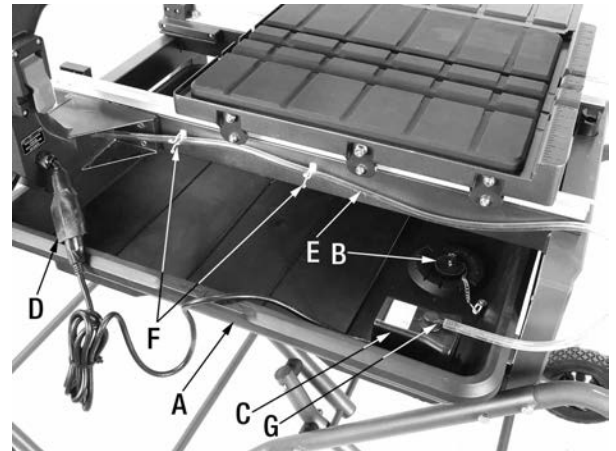

FIGURE 11
- 1) Locate the plastic water tray (A) Fig.11 and slide it under the table inside the machine frame as shown. Make sure the drain plug (B) is installed tightly.
- 2) Locate the water pump (C) Fig.11. The water pump comes with suction cups underneath it, wet the suction cups. The water tray comes with a cut out which shows the position the water pump must be placed. Position the water pump inside the cut out and press down firmly.
- 3) With dry hands, connect the water pump power cord to the dedicated water pump power receptacle (D) Fig.11.
Warning: This power receptacle (D) Fig.11 must only be used for the water pump.
- 4) There is a clear hose (E) Fig.11 which comes out from the base of the head. Clip the clear hose in the plastic retainers (F) as shown, then connect the end of the clear hose to the spout (G) on top of the water pump.